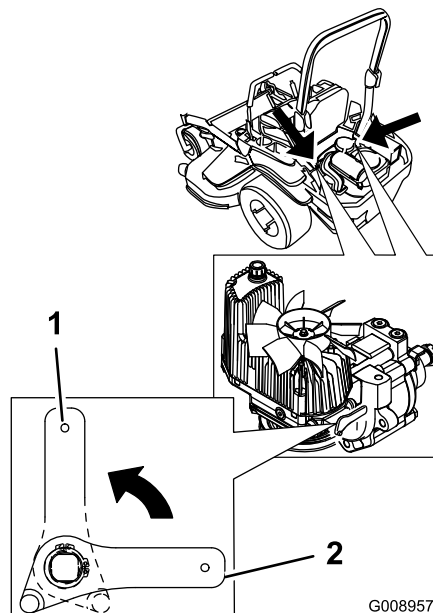

Figure 37
2. Rotate the release valve levers vertically to push the machine. This allows hydraulic oil to by-pass the pump enabling the wheels to turn (Figure 37).
4. Rotate the release valve levers horizontally to run the machine (Figure 37).